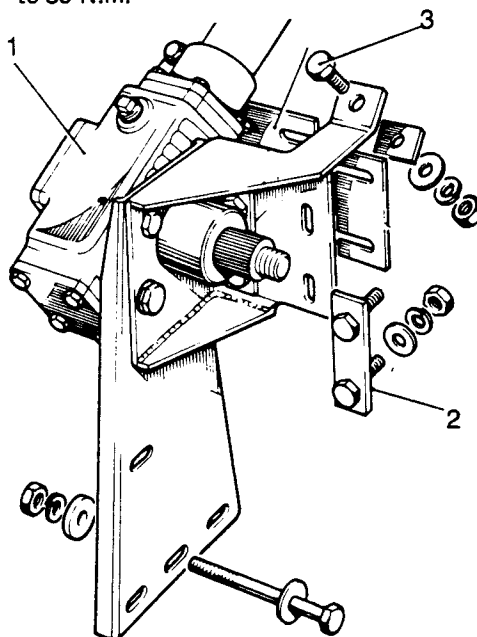

Fig L4.12
(2) Refer to Fig L4.12. Locate the steering box and bracket assembly (1) less drop arm, in position on the vehicle.
(3) Retain the support bracket to the chassis, wing valance and toe box, but do not fully tighten the fixings (2) at this stage.
(4) Retain the steering box stiffener bracket (3) to the toe box, but do not fully tighten the fixings at this stage. If necessary, fit shim washers between the stiffener bracket and the toe box to prevent distorting the toe box or bracket.